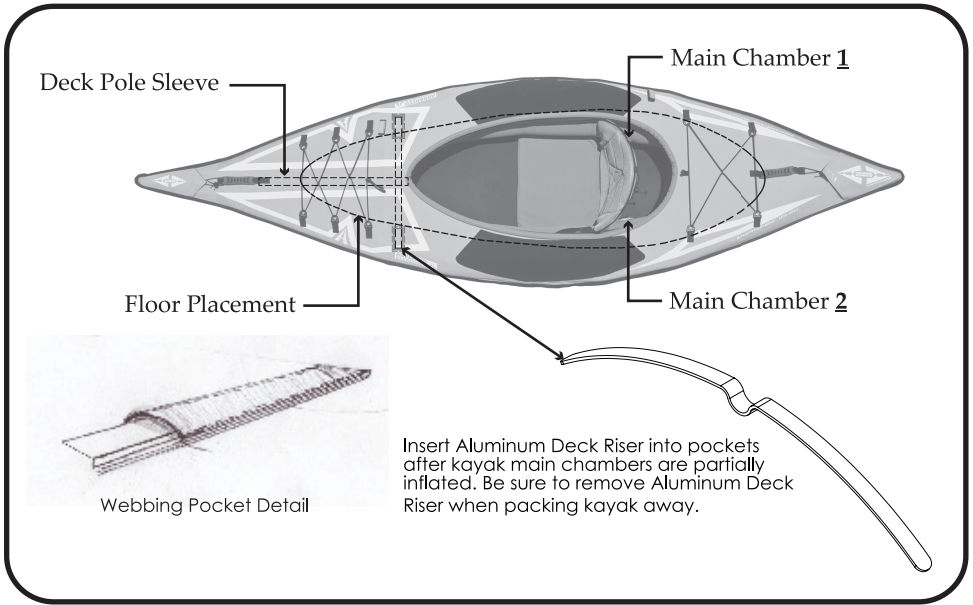

Figure 2. Inflation Chambers, Floor & Aluminum Deck Lift Installation
4. Install aluminum deck pole into the sleeve located on the underside of the kayak deck. *(See Figure 2.)*
5. Locate the small black pockets on the tube sleeves of the Main Chambers and install the Aluminum Deck Riser into the pockets. Orient it so that the notch aligns with the deck pole. *(See Figure 2.)*